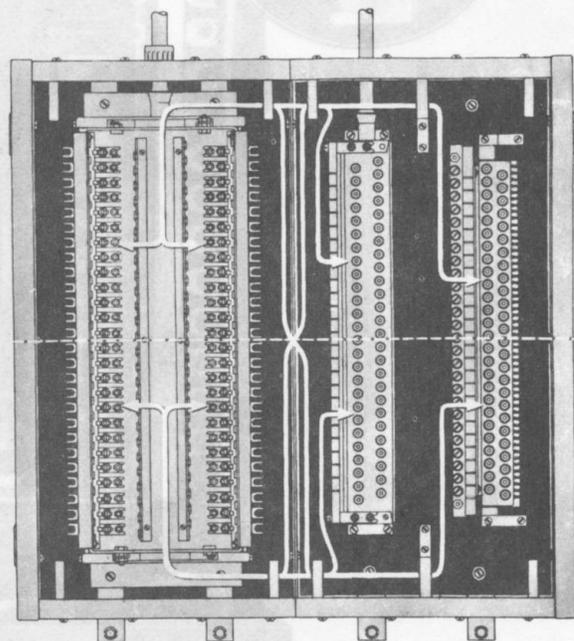

Fig. 10 — Typical Wiring Arrangement in LA-type Terminal
8.01 The LA-type terminal is equipped with an LA-type fuse chamber. Space is provided for mounting binding post chambers or connecting blocks as shown in Fig. 10. Station wiring is terminated normally on the binding post chamber or on the connecting block. Cross connections must be run to the LA-type fuse chamber.
**8.04** House cable pairs are not terminated in LA-type fuse chambers. They are terminated in a separate binding post chamber or connecting block shown in Fig. 10.